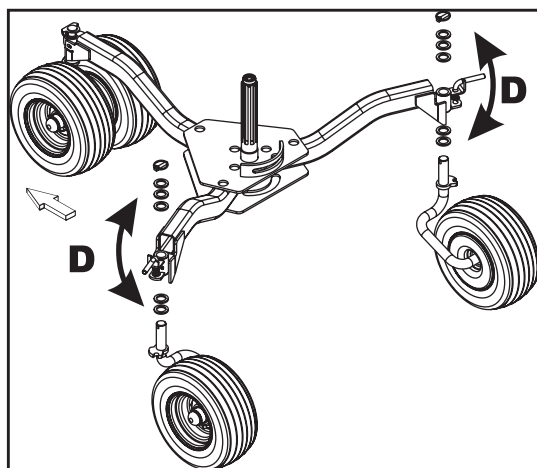

Fig. 4-4
Adjusting procedure (fig. 4-4):
- Adjust rotor pitch by installing 5 mm shims (D) as required at the top or lower side of the axle support (fig. 4-4).